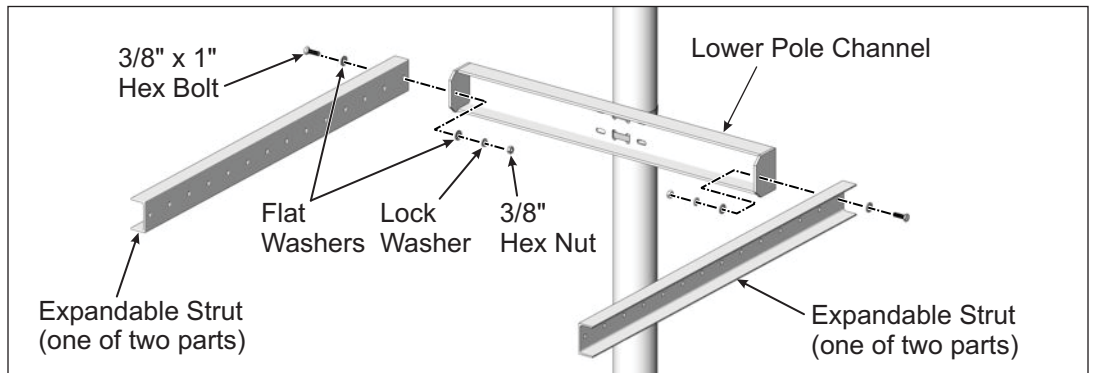

Figure 2-1: Attaching First Half of Expandable Struts to Pole Channel
The Expandable Struts are attached to the ends of the lower Pole Channel using 3/8" x 1" hex bolts and hardware. The Struts are attached/assembled in two stages with one half installed here (See Figure 2-1) and second half installed in Step 4.
- A. Orient and align the Struts as shown in Figure 2-1. Secure with one 3/8" x 1" hex bolt, lock washer, flat washers and Hex Nut. Finger tighten for now.